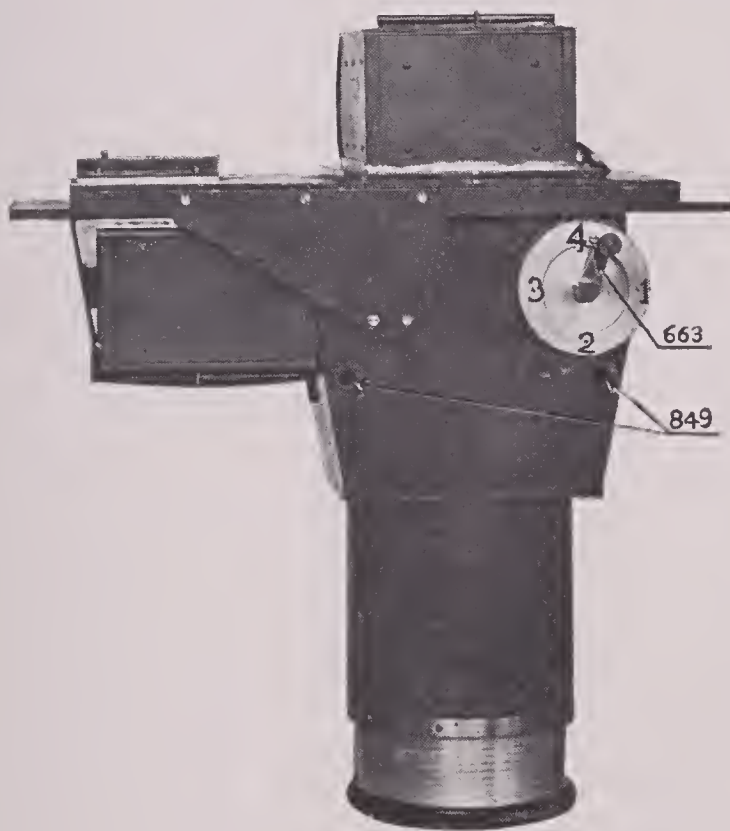

Figure 4
23. Fig. 4 shows a view of the spring tension. The left hand gear shaft crank No. 663 is connected to the shutter spring by multiplying gearing, enabling twenty turns to be given to the spring by one revolu-
34. For focusing, it is necessary to entirely release the tension on the shutter; this may be accomplished by removing the small screw shown on Fig. 4 on the shutter tension dial. This will allow the lever to rotate counter clock-wise beyond the zero tension. Having done this, the shutter curtain will stay in any desired position. The slit should be made at least an inch wide and brought to a position corresponding to the middle of the plate.